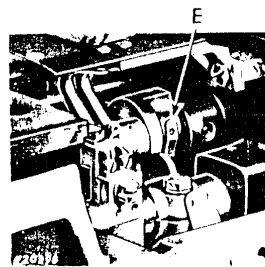
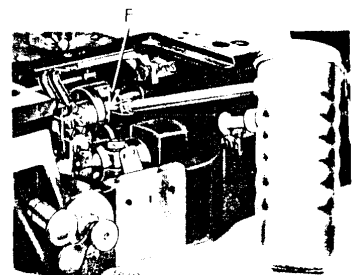

Fig. 7
Fig. 8
2. To fill bed shaft oil reservoir, push spring cover **E**, Fig. 7 to left, insert spout of pressure oil can in hole **F**, Fig. 8 and inject six shots of oil into shaft. Close oil spring cover **E**.
Fill bed shaft oil reservoir **F**, Fig. 8 (approximately 6 shots of oil).